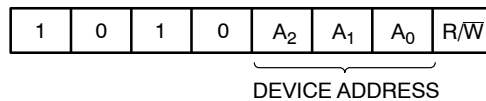

Figure 3. Slave Address Bits
The Master addresses a Slave by creating a START condition and then broadcasting an 8-bit Slave address. For the N24C64, the first four bits of the Slave address are set to 1010 (Ah); the next three bits, A₂, A₁ and A₀, must match the logic state of the similarly named input pins. The R/ $\overline{W}$ bit tells the Slave whether the Master intends to read (1) or write (0) data (Figure 3). The device in WLCSP with 4 bumps responds only to address combination A2A1A0 = 000.